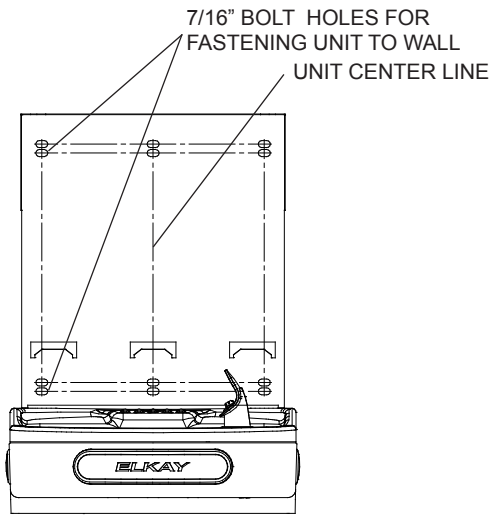

Fig. 8
- 2) **Remove wall mounting plate** from Bottle Filler. Place wall plate against wall on top of basin. Center the wall plate side to side with the basin. Mark the six (6) mounting holes with a pencil (See Fig. 8).
- 4) **Install wall mounting plate** to wall using six (6) 7/16" obround mounting holes (mounting bolts not included) (See Fig. 8). Use appropriate fasteners for your wall type.